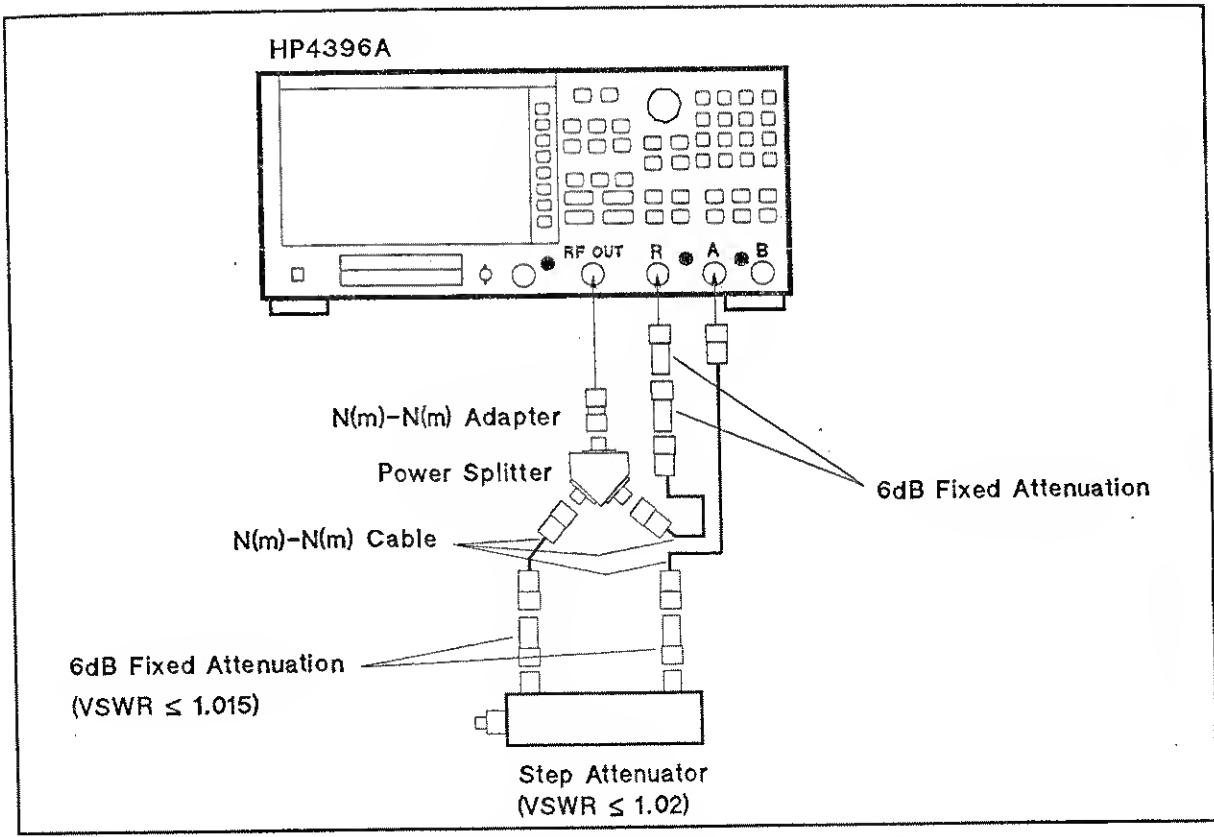

Figure 2-13. A/R Magnitude Ratio/Phase Dynamic Accuracy Test Setup 2
i. Change the cable connection as shown in Figure 2-13.